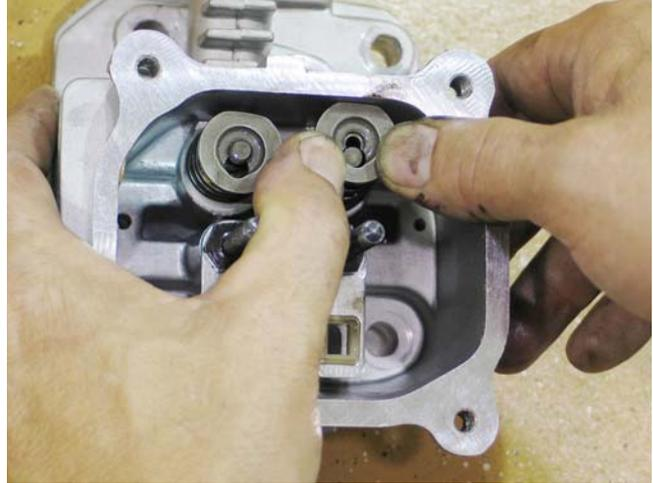

Figure 9.8
3. Remove the valve retainers by applying light finger pressure on the valve retainers and sliding them forward. See Figure 9.8.